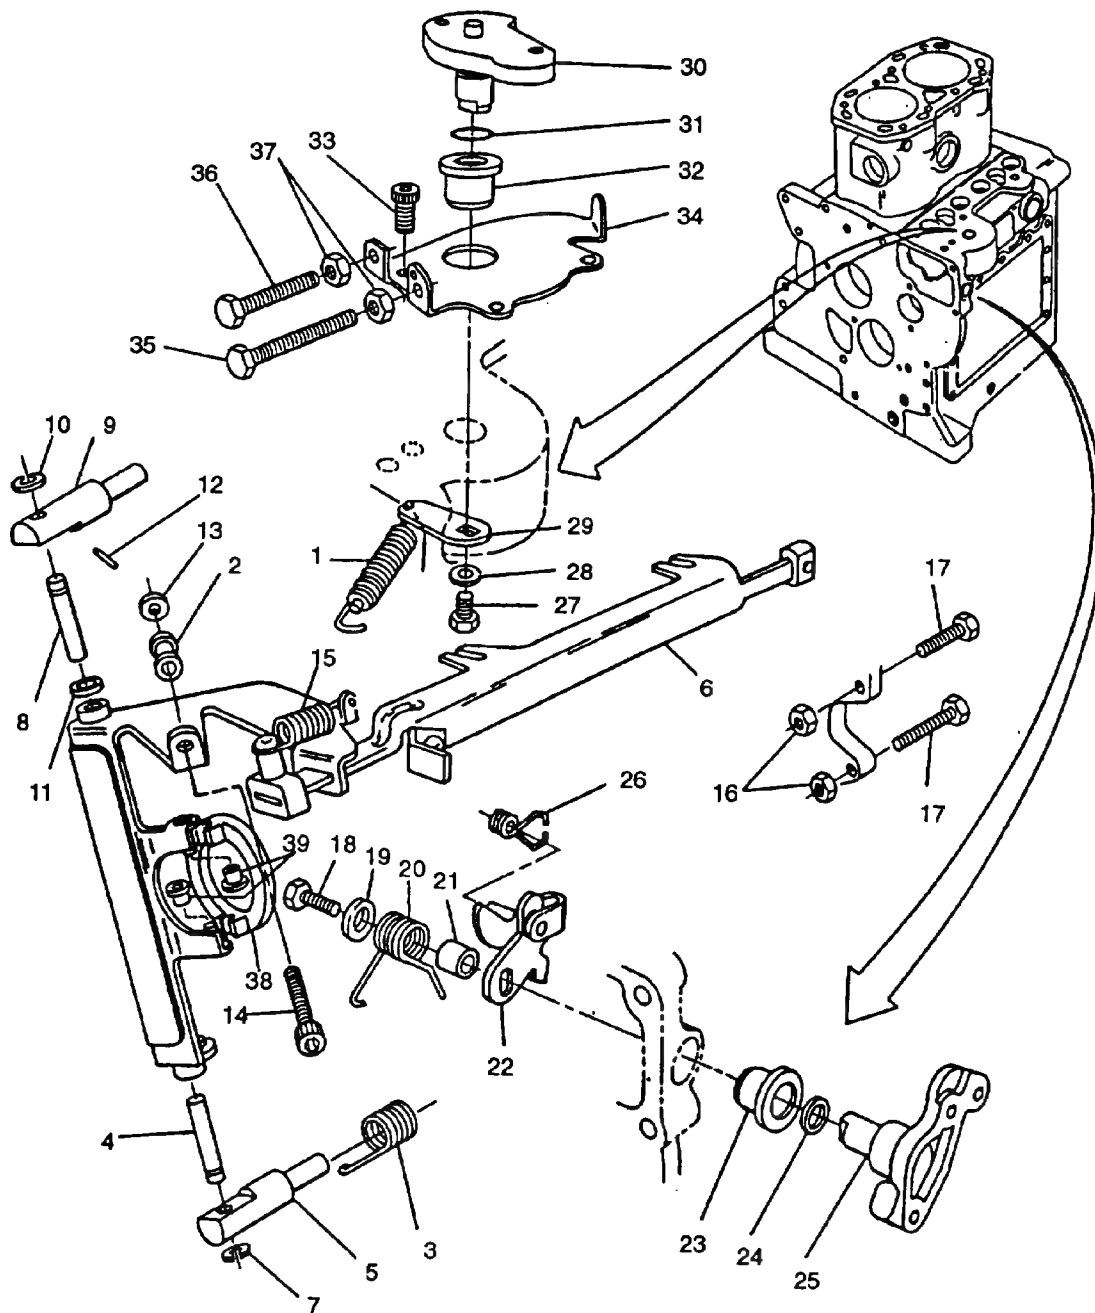
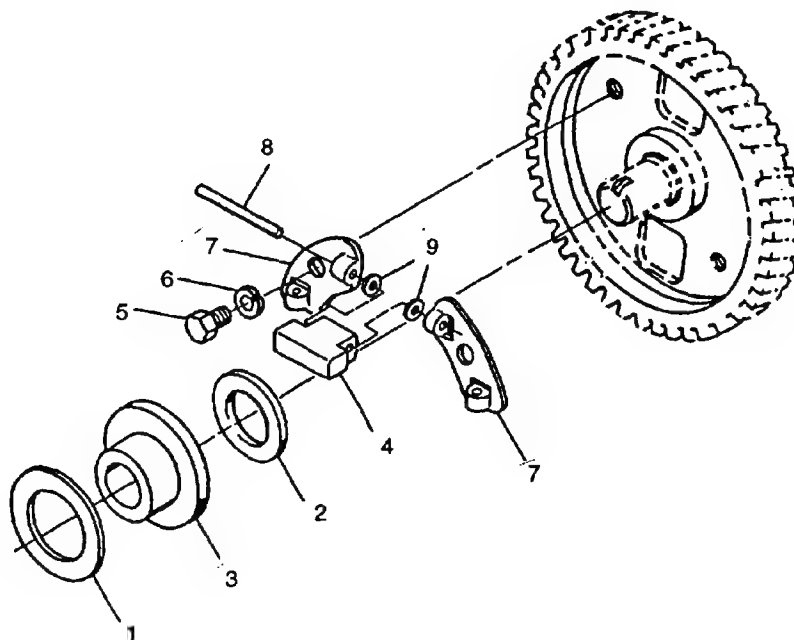

FIGURE 3-19. Governor System
FIGURE 3-20. Governor Weights
- c. Unhook speeder spring (1, **FIGURE 3-19**) from retainer (2) and lever (29); remove spring.
- d. Unhook spring (3) from pivot pin (4).
- e. Remove lower pivot pin (4) from lower pivot support (5) and governor lever (6). Remove pivot retainer (7). Remove spring (3) from lower pivot support (5).
- f. Remove upper pivot pin (8) from upper pivot support (9) and governor lever (6). Remove pivot retainer (10). Use care to retain all end play shims (11) that are installed.
9. Carefully remove governor lever assembly and fuel pump rack (6) from crankcase.
- a. Remove two thrust washers (1 and 2, **FIGURE 3-20**) and sleeve (3) from camshaft,
- b. Remove pin (12, **FIGURE 3-19**) shim (13) and retainer (2) from droop adjust screw (14); remove screw (14).
- c. Disconnect spring (15) from governor lever (6) bushing.
- d. Remove two nuts (16) and capscrews (17) from end cover.
- e. Remove capscrew (18) and washer (19) from inside crankcase, remove spring (20), bushing (21), and lever assembly (22). From outside crankcase remove bushing (23), preformed packing (24), and lever (26). Discard preformed packing (24). Remove trip lever spring (26).
- f. From inside crankcase, remove capscrew (27) and washer (28); remove lever (29).
9. From outside crankcase, remove speed quadrant (30) and preformed packing (31). Discard preformed packing (31).
- h. If damaged, remove bushing (32).
- i. Remove capscrew (33) securing base plate (34) to crankcase; remove base plate (34).
- j. Remove two capscrews (35 and 36) and nuts (37) from base plate (34).
- k. Remove thrust collar (38) and two bushings (39) from governor lever (6).
- l. Turn camshaft until a weight (4, **FIGURE 3-20**) is horizontal.
- m. Remove capscrew (5) and lockwasher (6) securing each retainer plate (7) to camshaft gear. Remove retainer plate (7) with weights. Discard lockwasher.
- n. Remove pin (8), shims (9), and weights (4) from retainer plate.
- p. Lightly lubricate pins (8) with engine lubricating oil (MIL-L-2104) and install them and shims (9) in new weights (4).
- q. Install weights (4) and pins (8) with large section of weights facing out.
- r. Install retainer plates (7) and secure each with a capscrew (5) and new lockwasher (6). Tighten capscrews to 6.5 ft-lbs (8.8 Nm).
- s. Ensure all weights (4) move freely.
- t. Install two bushings (39, **FIGURE 3-19**) and thrust collar (38) on governor lever (6).
- u. Install two capscrews (35 and 36) and nuts (37) on base plate (34).
- v. Position base plate (34) on crankcase and secure with capscrew (33).
- w. If removed, install new bushing (32).
- x. From outside crankcase, install new preformed packing (31) and speed quadrant (30) into crankcase hole.
- y. From inside crankcase install lever (29) on speed quadrant (30) and secure with capscrew (27) and washer (28).
- z. From outside crankcase, position bushing (23), new preformed packing (24) and lever (25) into crankcase hole.